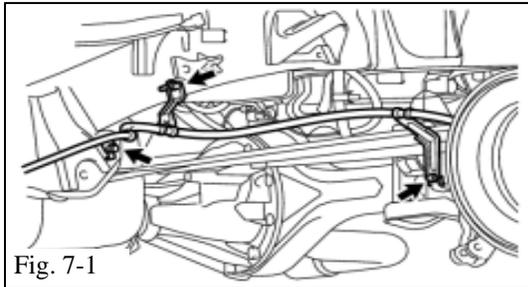

Fig. 7-1
- (e) Disconnect the #3 parking brake cable assembly by removing the 3 bolts and disconnect the cable from the vehicle. (Fig. 7-1)